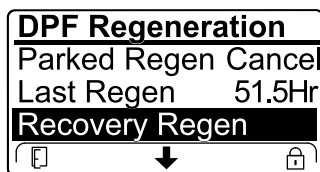

Figure 88
- If the engine computer has not requested a recovery regeneration and you scroll down to the RECOVERY REGEN option, the recovery regeneration locks and the lock icon (Figure 88) appears in the lower right corner of the InfoCenter.